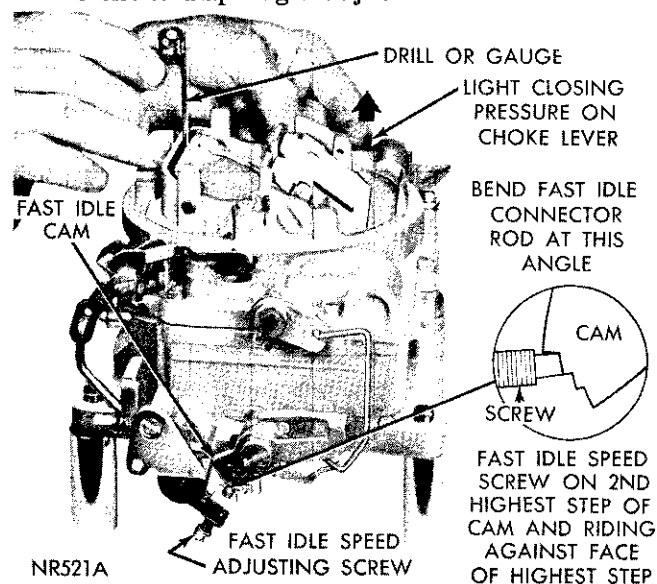

Fig. 12—Fast Idle Cam Position Adjustment
(1) With fast idle speed adjusting screw contacting second highest speed step on fast idle cam, move choke valve toward closed position with light pressure on choke shaft lever.
(2) Insert specified drill (refer to Specifications), between choke valve and wall of air horn (Fig. 12). An adjustment will be necessary if a slight drag is not obtained as the drill is being removed.
(3) To adjust, bend fast idle connector rod at angle, using Tool T-109-213 until correct valve opening has been obtained (Fig. 12).